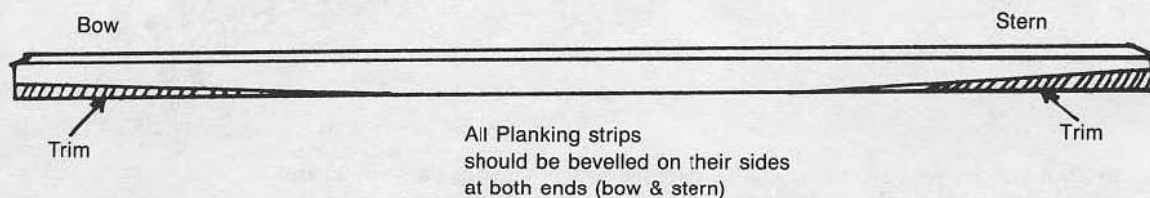

Fig. 10-18. Tapering sites on the plank (Courtesy of Northshore Deadeyes Ltd.).
F.D. Conte, an Italian kit manufacturer, stated in his book, *Period Model Boat Manual* (Aeropiccola Company), "It is useless to say that tapering is not an essential operation inasmuch as the perimetrical size of the frames decreases gradually at both ends of the ship (stern and prow)." (SEE FIG. 10-18).